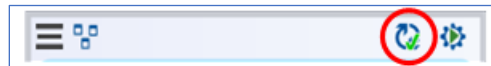

Figure 87: Apply Button with No Changes Pending
- When the Apply button contains a green check mark, there are no pending changes to apply, as shown in Figure 87.